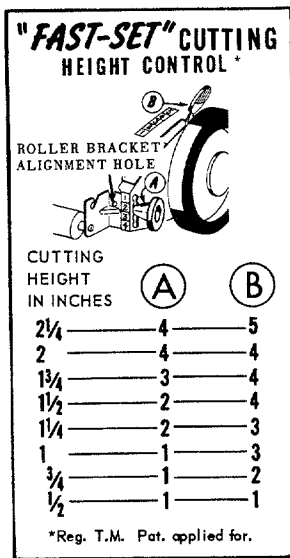

FIG. 3A
1. Consult the chart located on Page 5, (Fig. 3A) and Fig. 3 shown below. The roller adjusting knobs (A) and wheel adjusting levers (B) must be in positions shown for desired cutting height. **EXAMPLE:** for 1½" cutting height roller knob must be in No. 2 position, and wheel lever must be in No. 4 position. (Fig. 3 and Fig. 3A)